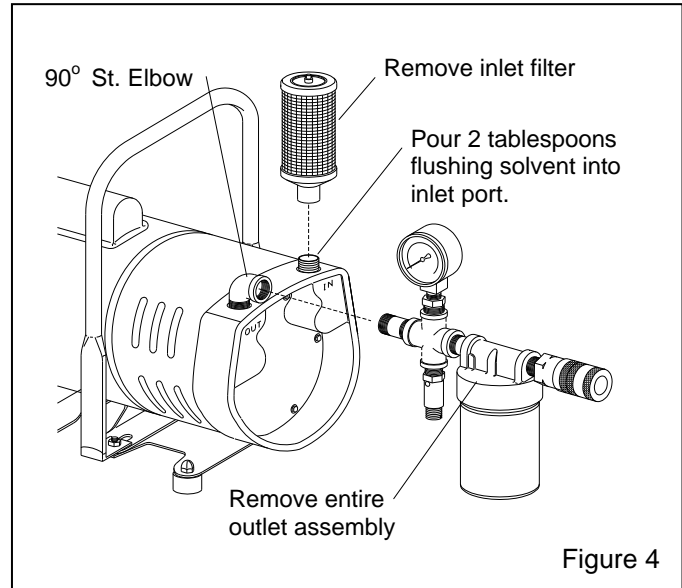

Figure 4
5.3 Flushing, Ref. Figure 4
5.3.3 To prevent the flushing solvent from entering the outlet filter and breathing air channel, remove the entire outlet plumbing assembly up to but not including the 90° st. elbow, as shown in Figure 4.